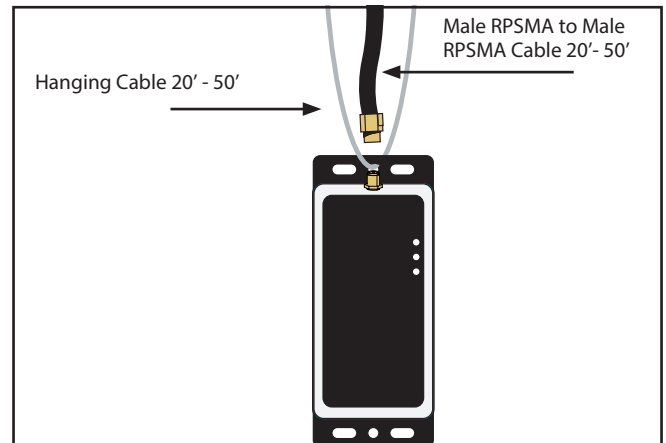

Figure 2: Hanging Controller and Connecting to Antenna
3. Secure the cable through the eyelet on the DIM10 series lighting controller. (Figure 2)
5. Attach one end the RPSMA cable to the DIM10 Series controller. (Figure 2)